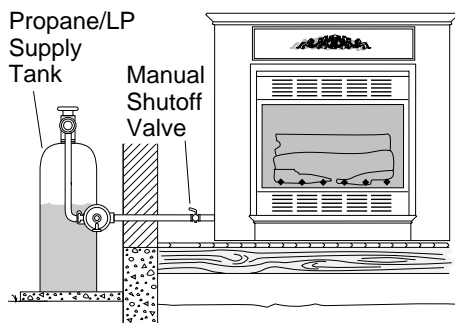

Figure 21 - Checking Gas Joints Shown with Optional Mantel
3. Check all joints from propane/LP supply tank to manual shutoff valve (see Figure 21). Apply mixture of liquid soap and water to gas joints. Bubbles forming show a leak.